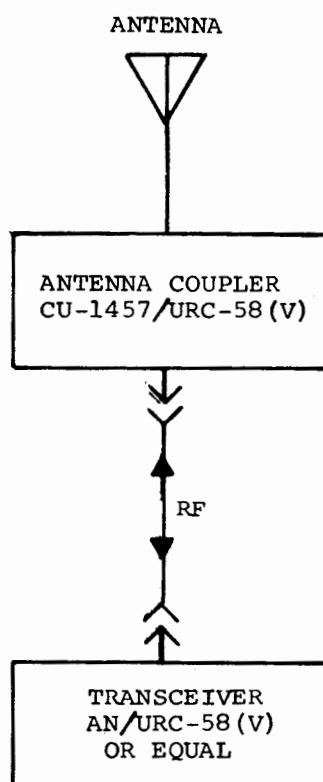

Figure 6-35 Antenna Coupler CU-1457/URC-58 (V)
c. INTERCONNECTION DIAGRAM. - See Figure 6-35.